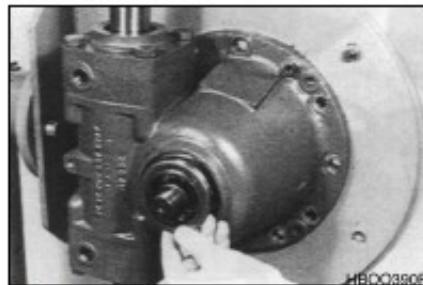

Figure 55
6. Cover outer diameter of shaft seal with sealing compound (Curiel T) and install shaft using driver to ensure seal is installed to correct depth. See Figure 55.